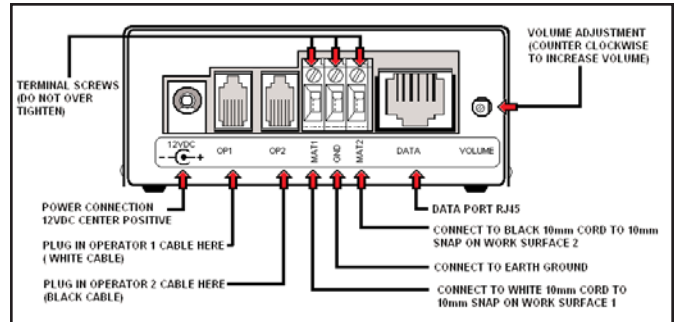

Figure 2. Dual Wire - Dual Operator Programmable Monitor rear view
- D. Attach the tinned wire ends of the mat wires to the appropriate screw terminal connection on the rear of the unit. (See Figure 2). The white wire is for operator #1 and the black wire is for operator #2.
- H. Route the operator remote wires to the monitoring unit and insert the modular plugs into the appropriate jacks on the rear of the unit. (See Figure 2)
The audible alarm for Operator 1 and Ground 1 is continuous. The audible alarm for Operator 2 and Ground 2 is a repetitive beep. If a fault condition exists for both operators and/or both grounds, the alarm will sound continuously. The alarm volume may be adjusted with the potentiometer on the rear of the unit (see Figure 2).